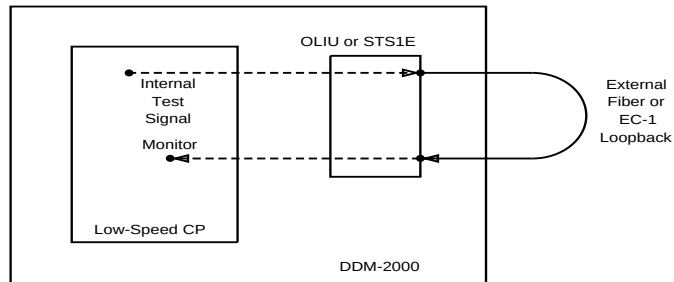

Figure 9-18. Local Equipment Test
1. **Local Equipment Test** — The local equipment test verifies the integrity of the transmission and synchronization circuit packs and the OC-3 backplane. In the test, high-speed signals are looped back (manual optical loopback or EC-1 electrical loopback) towards the low-speed interfaces (see Figure 9-18).